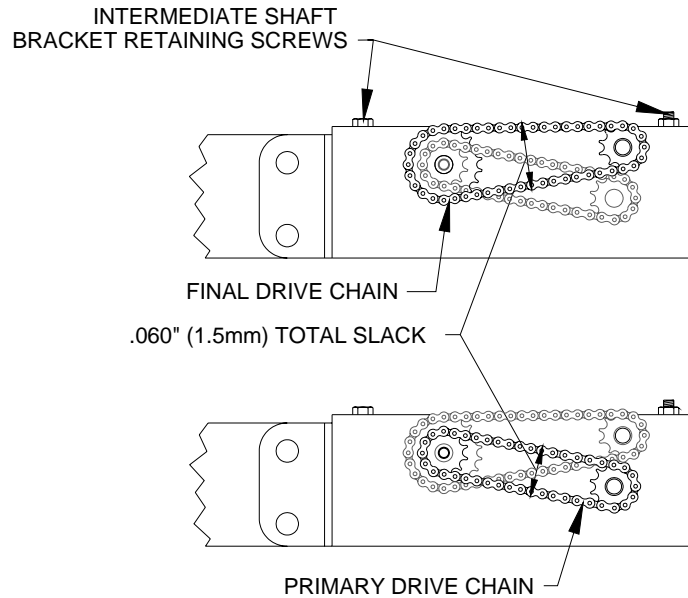

FIGURE 4-17: DRIVE CHAIN SLACK ADJUSTMENT
- 2) Refer to **Figure 4-17**. Loosen screws fastening intermediate shaft bracket to carriage. The front screw is accessible from top of lift, and rear screw is accessible through service hatch (use an open end wrench above intermediate shaft mounting bracket to hold nut).
- 1) Refer to **Figure 4-17**. Adjust chain tension to achieve .030" (.8mm) slack on upper span.
- 4) Refer to **Figure 4-17**. Engage final drive chain sprocket (mounted on intermediate shaft) with torque wrench.